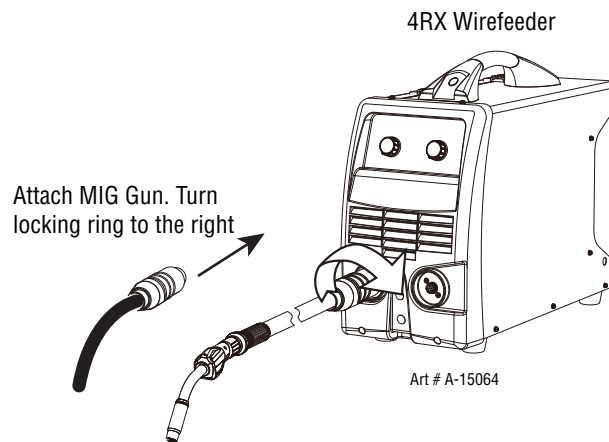

Figure 5-6: Attaching the Tweco Professional MIG Gun (Euro)
1. Fit the MIG Gun to the Wirefeeder by pushing the MIG Gun connector into the Euro Connector and screwing the plastic nut clockwise to secure the MIG Gun to the Euro Connector. Refer to Figure 5-6.